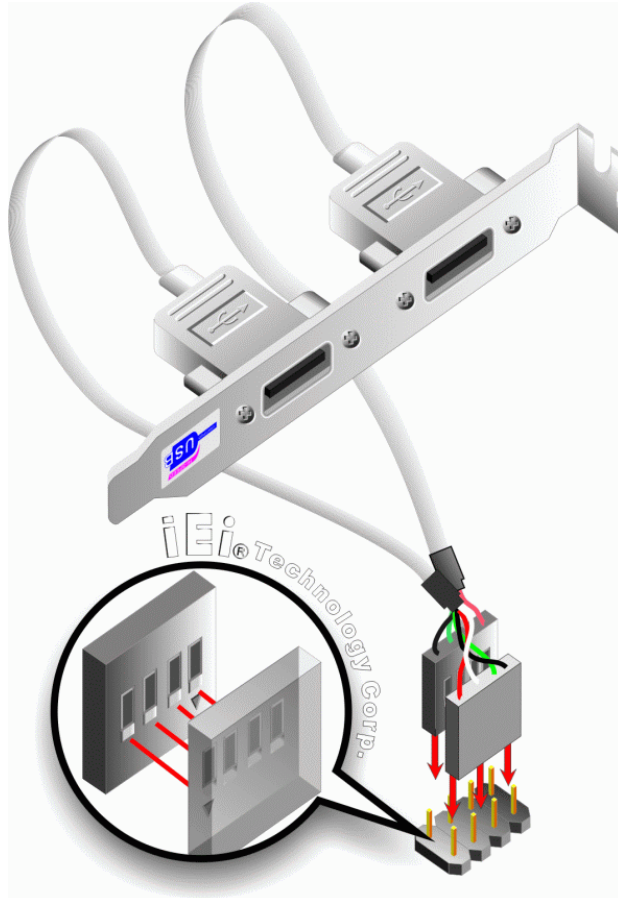

Figure 4-14: Dual USB Cable Connection
Step 3: Insert the cable connectors Once the cable connectors are properly aligned with the USB connectors on the IMBA-Q454-R10, connect the cable connectors to the on-board connectors. See **Figure 4-14**.
Step 3: Insert the cable connectors. Once the cable connectors are properly aligned with the USB connectors on the IMBA-Q454-R10, connect the cable connectors to the on-board connectors. See **Figure 4-14**.